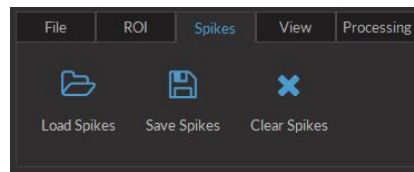

Figure 3.30: Spikes Tab
3. The **Spikes tab** (Fig. 3.30) is used to save/load data relating to regions of interest drawn on an image.